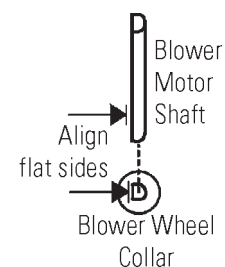

Figure 5-2. Align
11. Install the blower wheel onto the motor shaft, aligning the d-shaped flat sides of each. See Figure 5-2. Secure the blower wheel with the wingnut. Make sure the wheel turns freely.